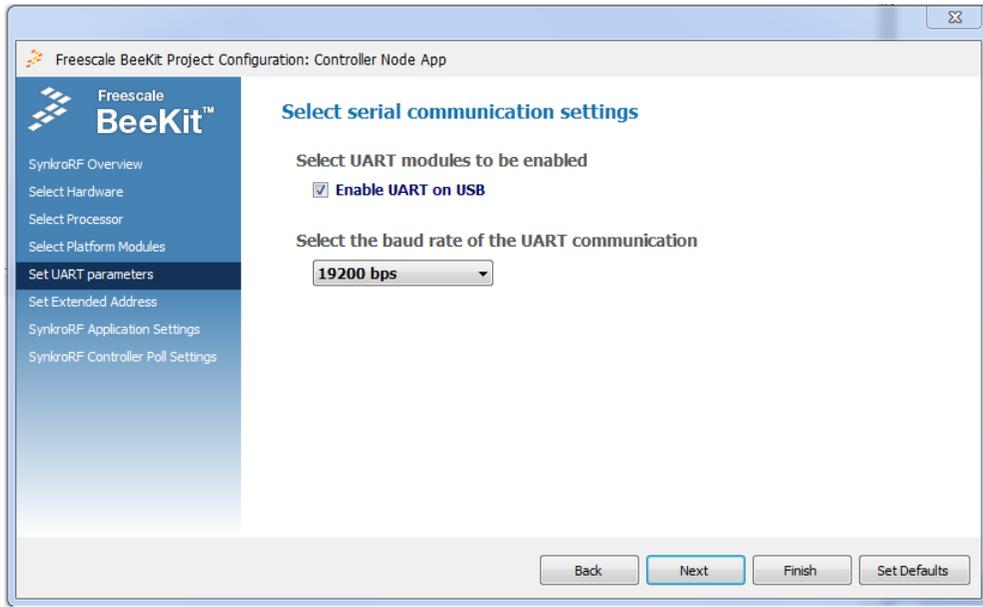

Figure 2-7. UART Parameters Page
- Leave the default platform modules settings unchanged. LEDs and Keyboard modules on the board are enabled. Alternatively, users can enable the LCD, the SynkroRF application prints some information on it if it is enabled. Enabling the low power module allows the controller node to go into sleep mode, if allowed by the application. Click Next to go to the UART Parameters page shown in Figure 2-7.